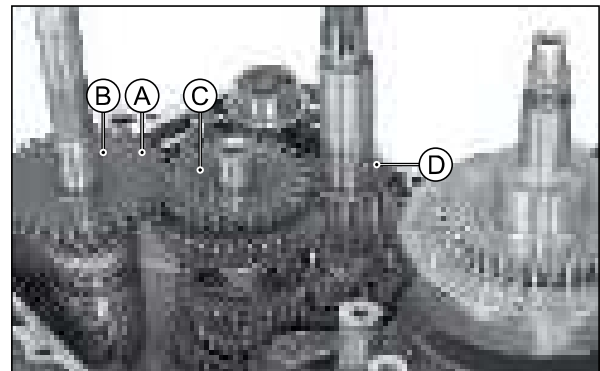

Fig. 3.201
- Assemble gear kick starter drive (A) and shim (B) on the shaft kick starter. (Fig. 3.201)
- Assemble the shim (C) on the shaft complete drive. (Fig. 3.201)
- Assemble bearing kick starter driven gear along with shim and thrust washer (D) on the shaft complete counter. (Fig. 3.201)